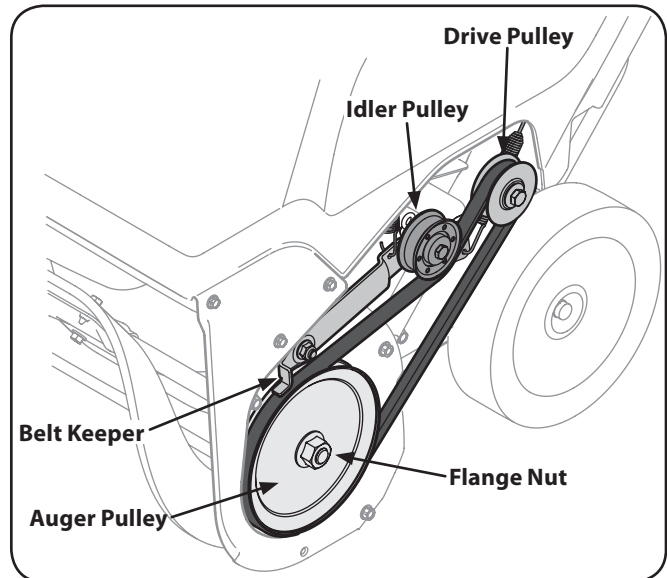

Figure 7-3
To replace the belt follow these instructions and refer to Fig. 7-3:
1. Route the belt around the drive pulley and under the idler pulley. See Fig. 7-3.